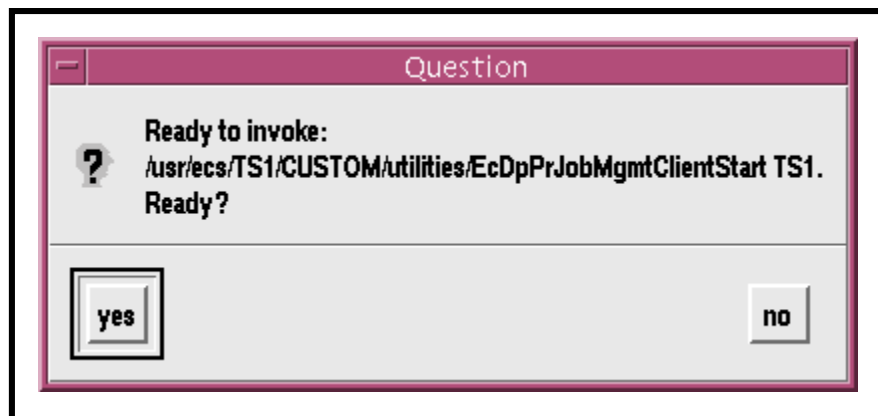

Figure 54. Ready to Invoke (Job Management Client) Dialog Box
- The **Ready to Invoke** (Job Management Client) dialog box (Figure 54) is displayed.